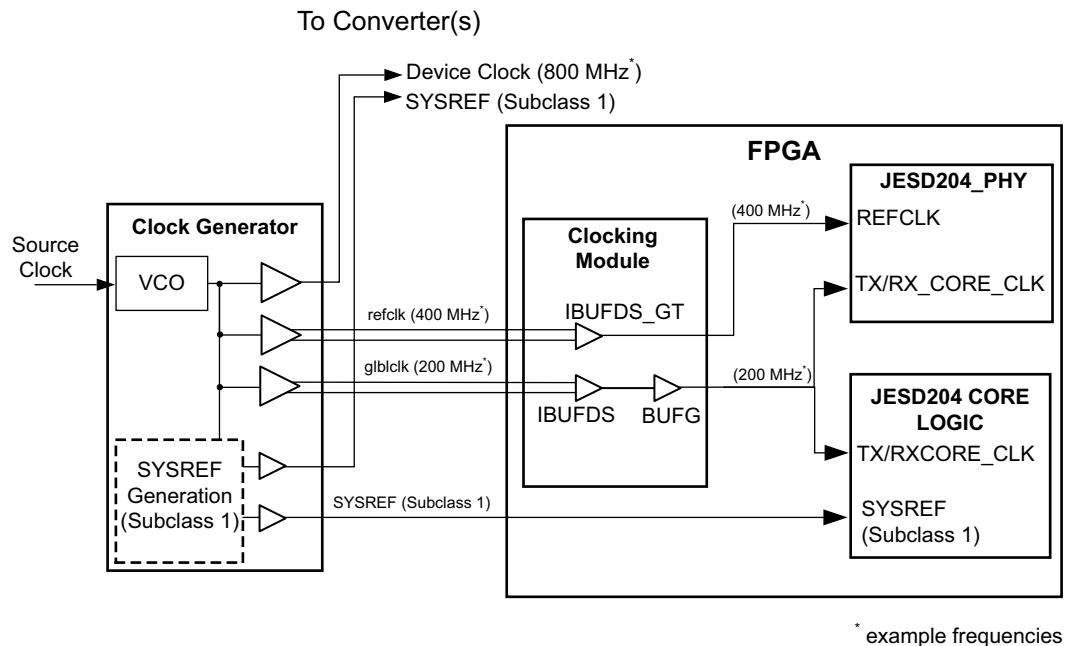
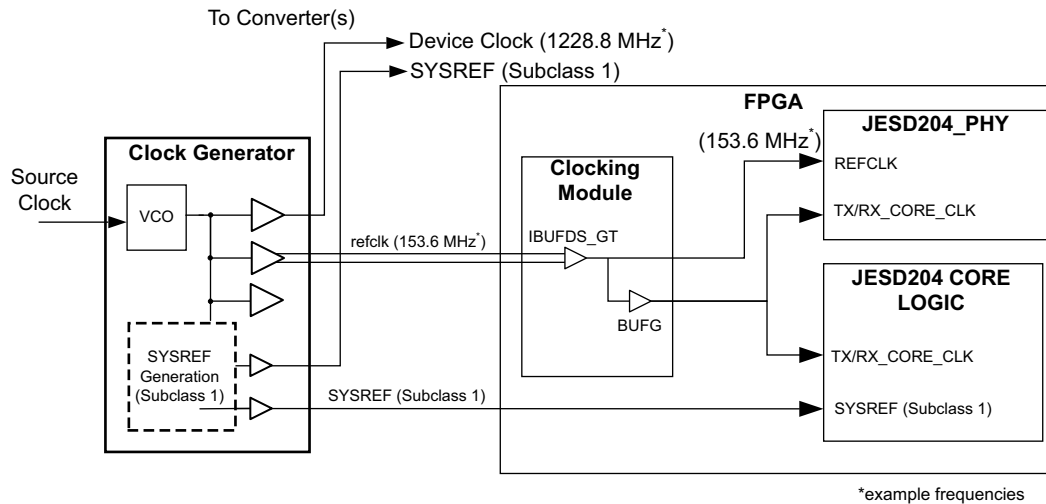

Figure 3-1: Clock Configuration using Separate refclk and Core Clock
Figure 3-2: Artix-7, Kintex-7 and Virtex-7 Clock Configuration using refclk as Core Clock
Figure 3-1 shows the most generic and flexible clocking scheme, where separate `refclk` and `gblclk` inputs are used to provide the transceiver reference clock and the core clock, respectively. With this configuration, the reference clock and core clock are physically separate clocks and can be run at independent frequencies, without additional constraints. The reference clock can be run at any frequency within the limitations of the transceiver for the selected line rate. The core clock always runs at the required rate (1/40th of the serial line rate).
Figure 3-2 shows a clocking scheme that can be used for Artix-7, Kintex-7 and Virtex-7 devices when the reference clock frequency is in the range that can be used for the core clock and supports the reliable capture of SYSREF/SYNC. This frequency range is governed by the particular device family and speed grade (see Tables 3-1 to Table 3-3).
Figure 3-3 shows a clocking scheme that can be used for all UltraScale and UltraScale+ devices when the reference clock is in the range that can be used for the core clock (see Table 3-4 to Table 3-7). When the reference clock is outside this range, the clocking scheme shown in Figure 3-1 must be used.
3. If these conditions are met, the clocking in Figure 3-2 can be used. Otherwise, the clocking in Figure 3-1 must be used.
2. If these conditions are met, the clocking in Figure 3-2 can be used. Otherwise, the clocking in Figure 3-1 must be used.
2. If these conditions are met, the clocking in Figure 3-3 can be used. Otherwise, the clocking in Figure 3-1 must be used.